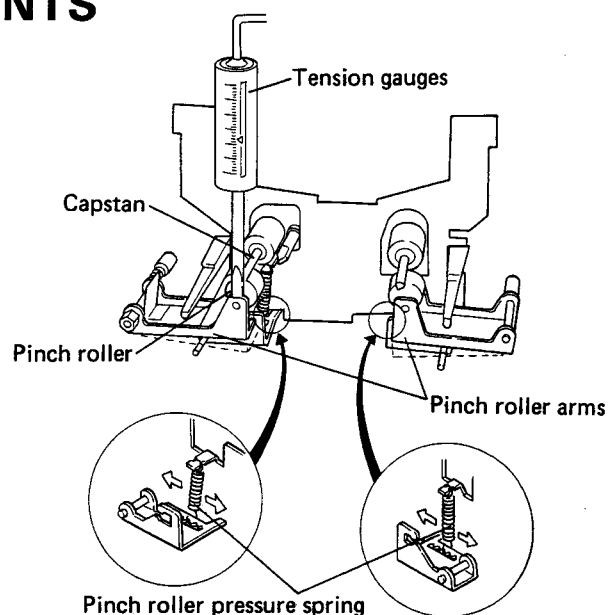

Fig. 8-1 Pinch roller pressure adjustment
2. Gently press tension gauges (of about 500g scale) against the pinch roller arms. (See Fig. 8-1).